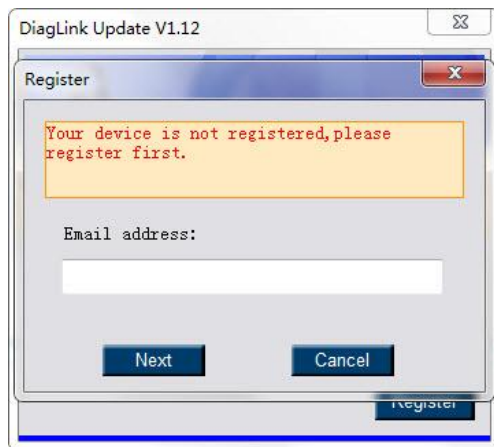

Figure 10.3
- 5) Enter your email address in the input box and click **Next** (Figure 10.3).